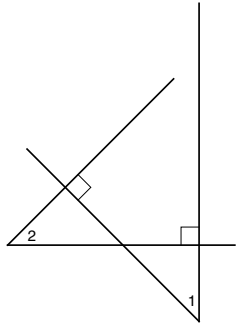

Figure 3-14. Angle 1 is equal to Angle 2 because their corresponding sides are perpendicular to each other.
- **Two angles having their corresponding sides perpendicular are equal.** Thus, in **Figure 3-14**, Angle 1 equals Angle 2.